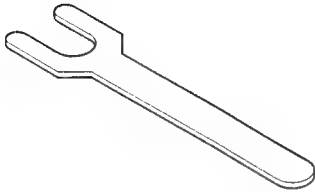

Fig. 1-3-17 Service wrench
2. Tighten the S adjusting screws with a wrench for servicing and fix the Z rotation plate. (Refer to Fig. 1-3-17.) If the focus adjusted is upset when fixing, loosen the S adjusting screws and perform the adjustment in step 1 again.